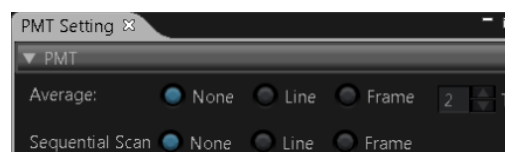

Fig. 2.3: Use **Average** or **Sequential Scan** only with the “Frame” selection when capturing FLIM images.
- **Average and Sequential Scan:** can only be used in conjunction with the „Frame“ option. „Line“ option will scan every line several times which cannot be correctly interpreted by the SymPhoTime software (see Fig. 2.3).